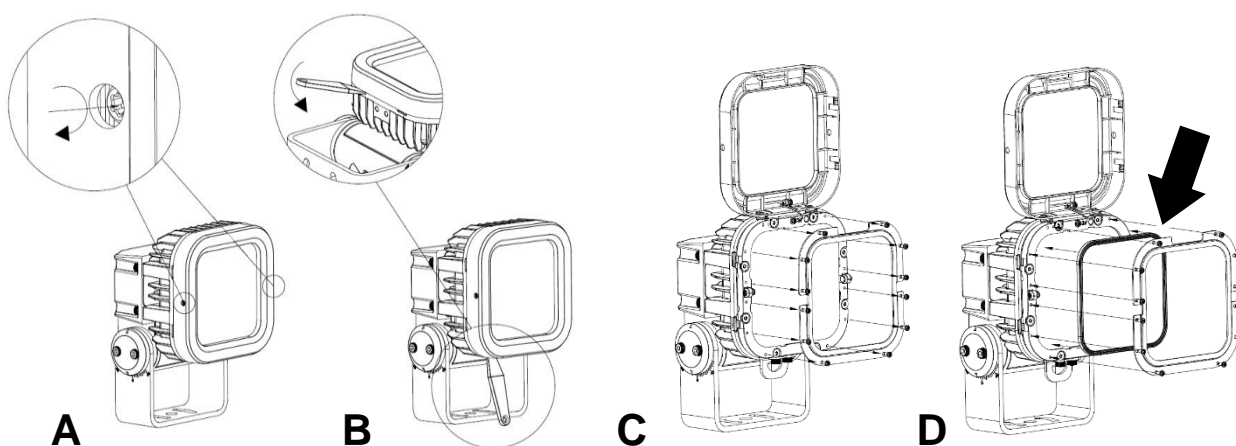

Figure 5. Microlens installation
2. See **A** in Figure 5. Loosen the captive screws from both sides of the trim frame (or Baffle Snoot, if used) on the front of the fixture by pressing them in and turning them clockwise until they reach a stop.